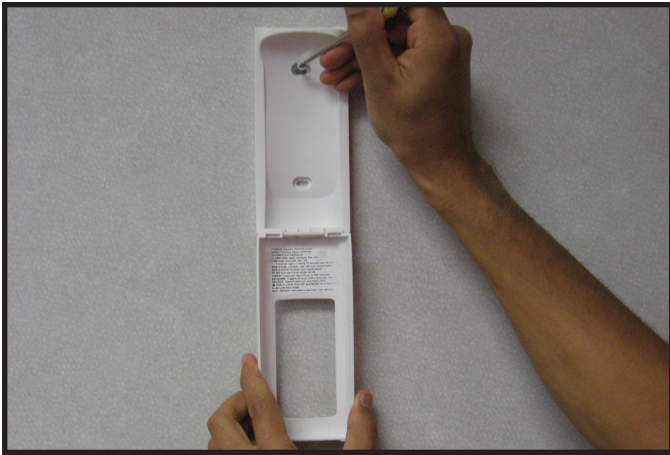

Figure 11.2. Mounting Remote Control Housing
3. Secure the remote control housing on a flat wall surface using the two screws and wall anchors provided. See Figure 11.2.